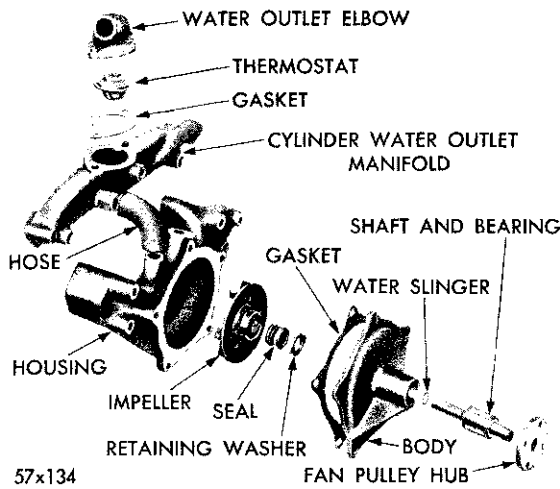

Fig. 2—Water Pump Assembly (Exploded View)
a. Removal from Car (See Fig. 2).